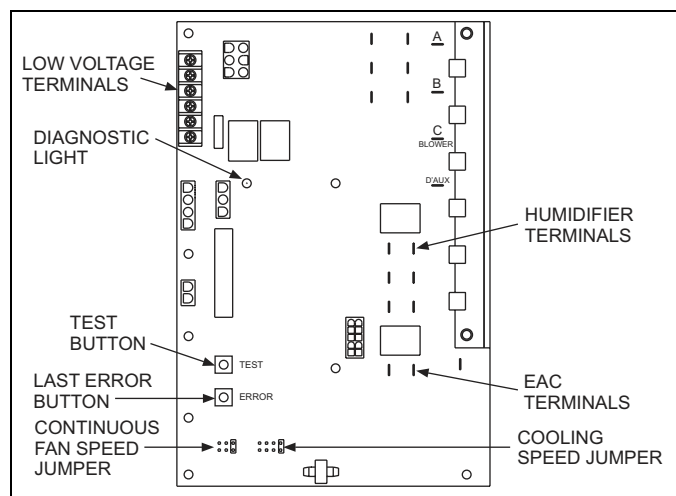

FIGURE 21: Furnace Control Board
Follow the appropriate section in the instructions below. Refer to Figure 21 for a drawing of the locations of the pressure ports on the gas valve.
1. Refer to Figure 21 for location of pressure regulator adjustment cap and adjustment screws on main gas valve.